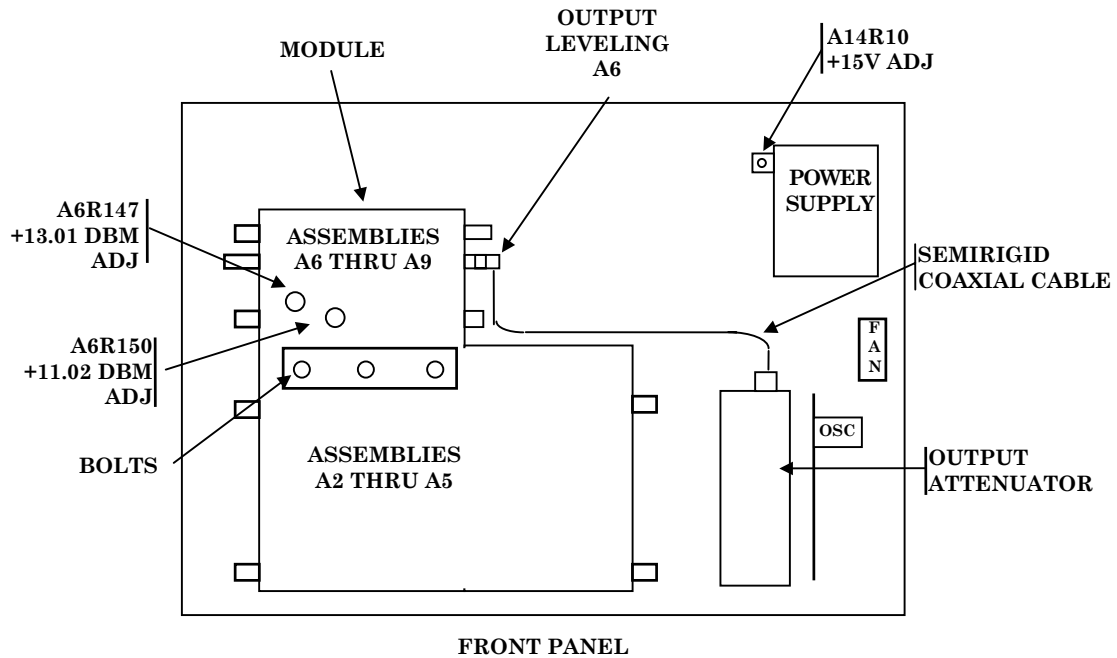
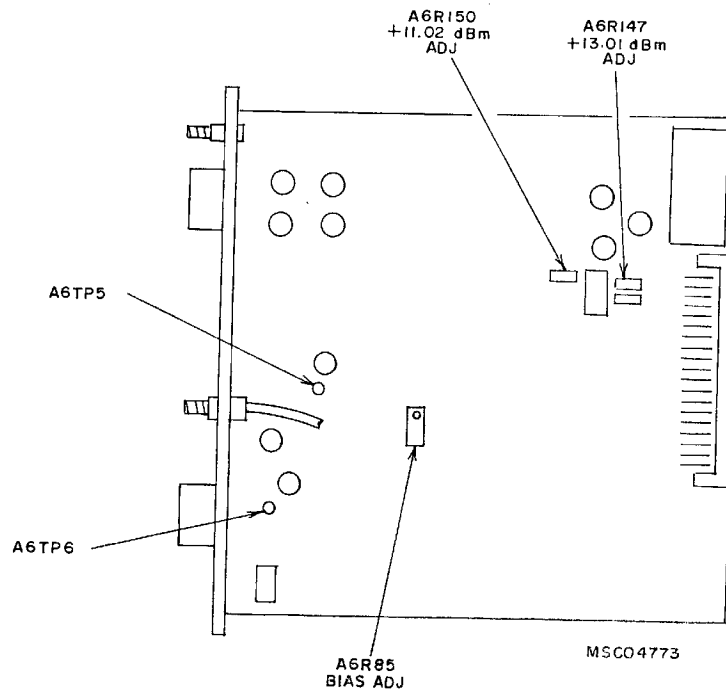

Figure 1. Test Instrument - top view.
Figure 2. A6 output amp/level control.
- (1) Press **ON-STBY/POWER** pushbutton to **OFF**.
- (2) Remove top cover.
- (3) Remove three bolts that hold module to chassis (fig. 1).
- (4) Remove semirigid coaxial cable (fig. 1).
- (5) Turn TI on side and remove module from chassis (fig. 1).
- (6) Remove assemblies A6 and A7 (fig. 1) and place on extender boards .
- (7) Install cable from A6 **OUTPUT LEVELING** to output attenuator (fig. 1).
- (8) Press **ON-STBY/POWER** pushbutton to **ON**, then press **10, kHz/+dBm, AMPLITUDE, 13.01, kHz/+dBm** pushbuttons.
- (9) Ground A6TP5 (fig. 2).
(10) Connect multimeter between A6TP6 (fig. 2) and chassis ground. Adjust **BIAS ADJ A6R85** (fig. 2) for 0 V ± 0.01 V dc (R).
- (13) Remove extender boards and reinstall assemblies A6 and A7 (fig. 1) into module.
- (14) Replace module in chassis and secure.
- (15) Replace semirigid coaxial cable removed in (4) above.
- (16) Repeat **a** (1) above.
- (17) Press **ON-STBY/POWER** pushbutton to **ON** and allow TI to operate at least 30 minutes.
- (18) Press **10, kHz/+dBm, AMPLITUDE, 13.01**, and **kHz/+dBm** pushbuttons.
- (19) Adjust A6R147 (fig. 2) (+13.01 dBm ADJ) for 1 V +0.005 V ac on multimeter. Note and record the difference from I V (R).
- (20) Press **AMPLITUDE, 11.02**, and **kHz/+dBm** pushbuttons.
- (21) Adjust A6R150 (fig. 2) (+11.02 dBm ADJ) for a multimeter reading listed in table 5 corresponding to the difference recorded in (19) above (R).
(1) Assemblies A2 through A9 (fig. 1) must be installed before adjustments can be made.
b. Adjustments. Adjust A14Rl0 (+15 V ADJ) (fig. 1) for a 15 V dc indication on multimeter (R).